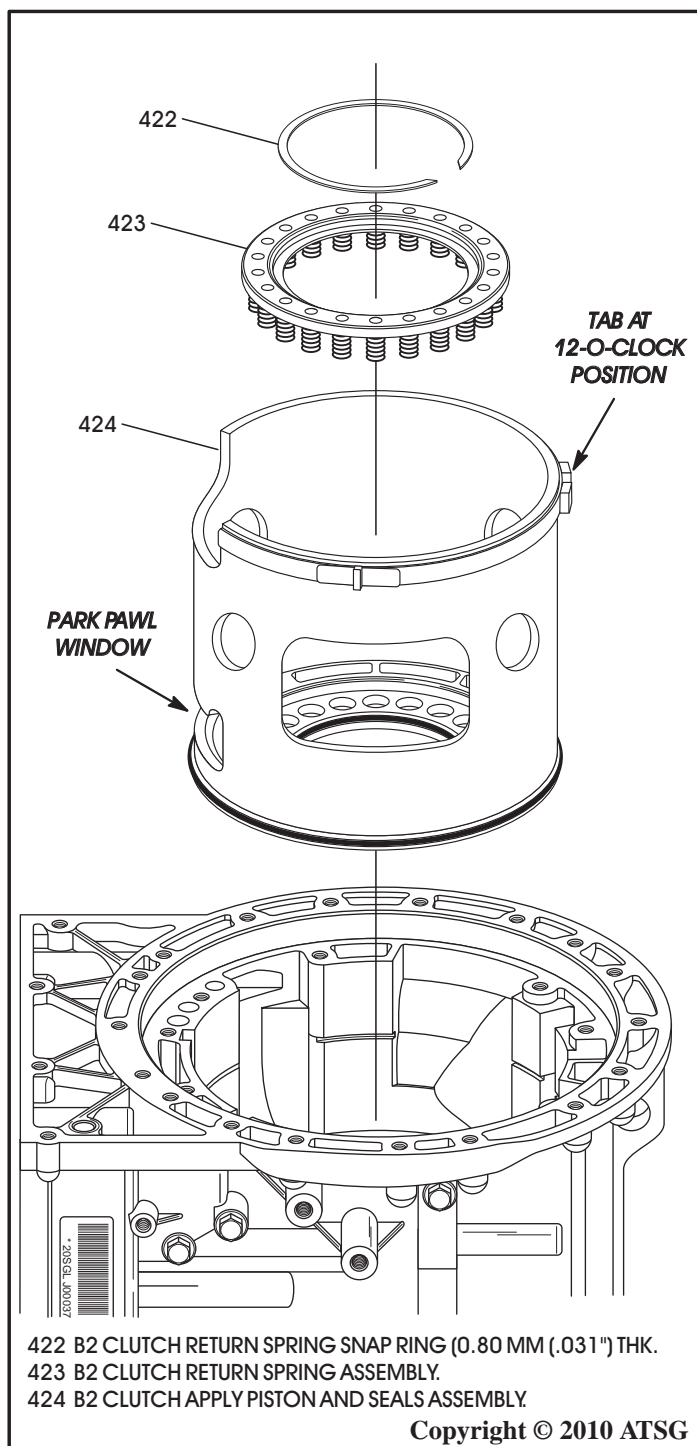

Figure 80
3. Install the B2 clutch apply piston into the case, as shown in Figure 80.
**Note:** Piston must be installed with large tab at the 12-O-Clock position and the park pawl window at 6-O-Clock, as shown in Figure 80.
4. Install the return spring assembly and snap ring, as shown in Figure 80.